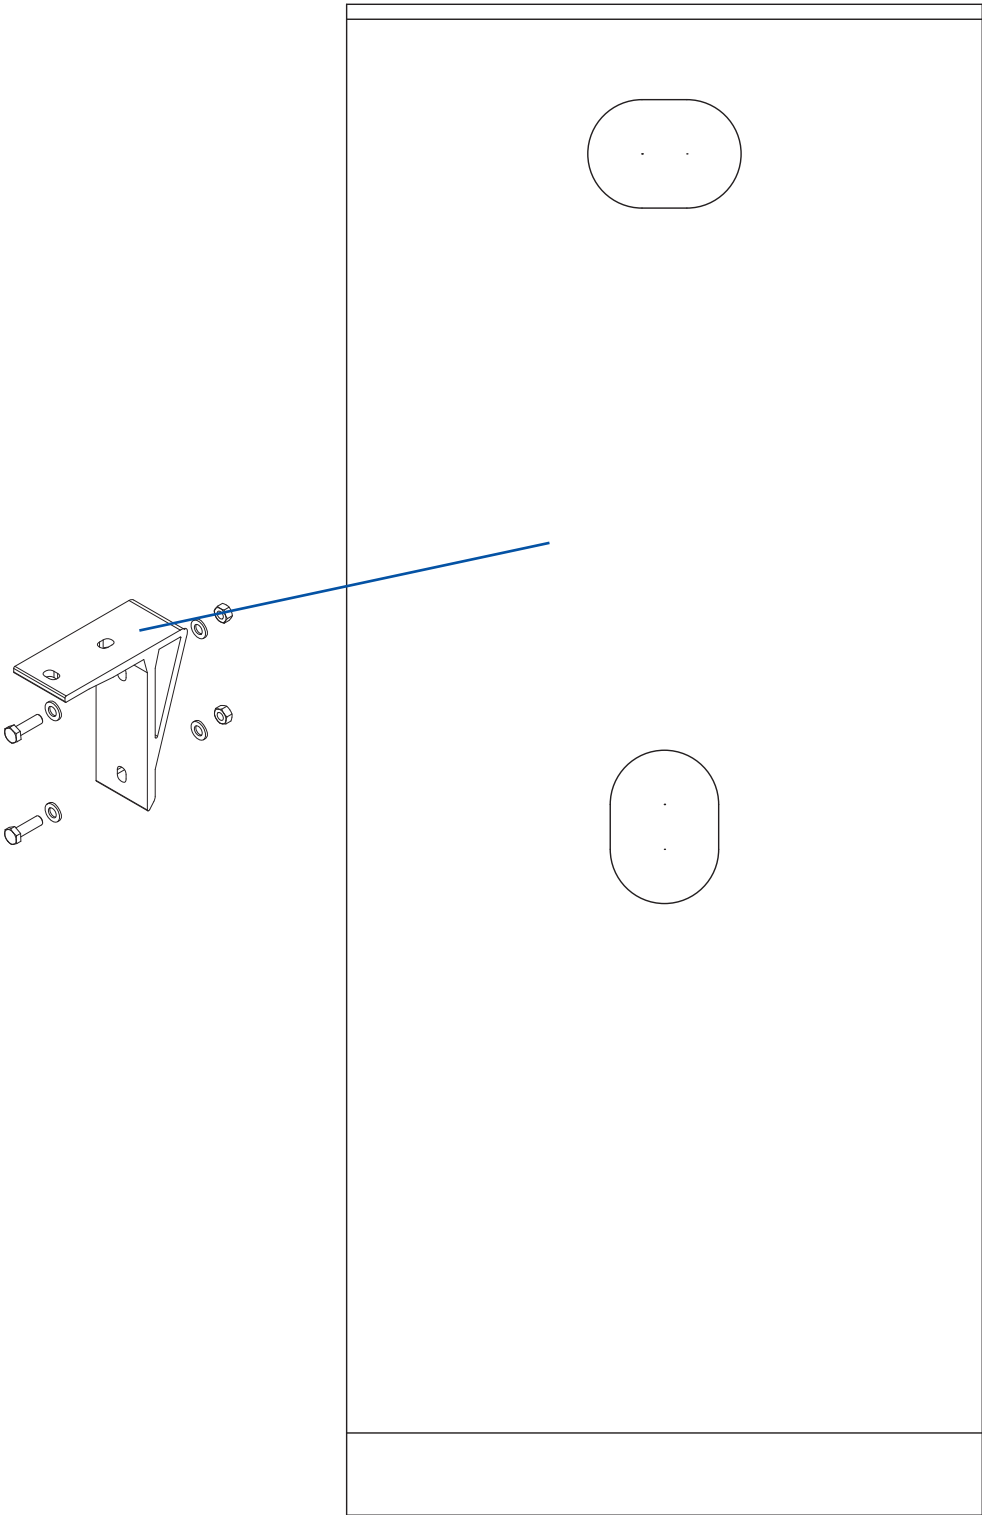

FIG. 6
- 6 ▫ Drill a hole in the wall based on the type of screws available and the type of masonry (see Fig. 6).